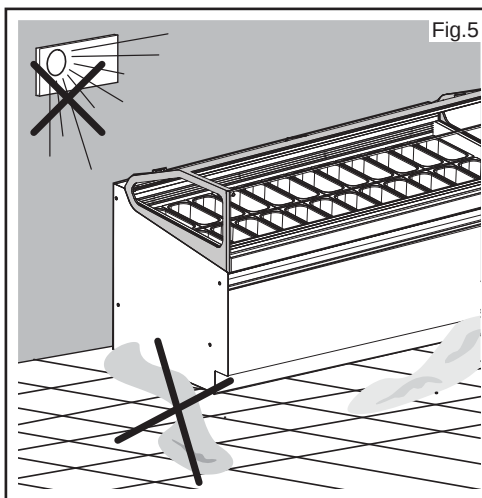

Fig.5
- You should also make sure, during installation (Fig. 5), that: